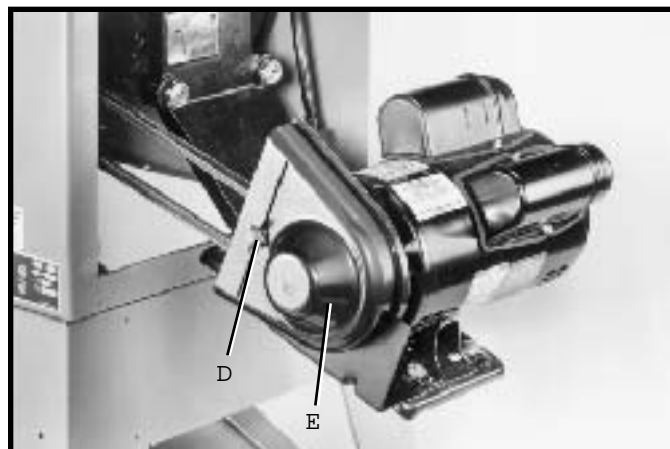

Fig. 22
9. Assemble the outer cover (E) Fig. 22, of the belt and pulley guard assembly, which was removed in STEP 3, and fasten with external tooth lockwasher and wing nut (D). **IMPORTANT:** Make certain the outer cover does not interfere with the drive belt and the motor pulley.